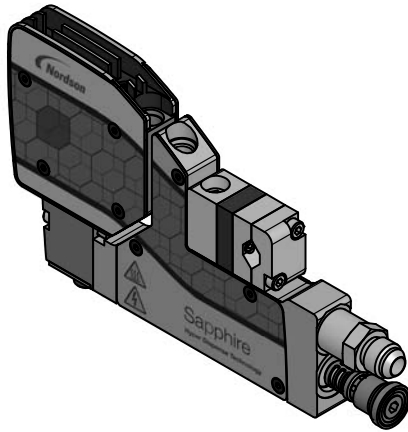

Figure 19: Replacing the filter
4. Refer to Figure 19. Unscrew the Saturn integrated applicator filter with a M4 hex wrench, and then remove the filter.